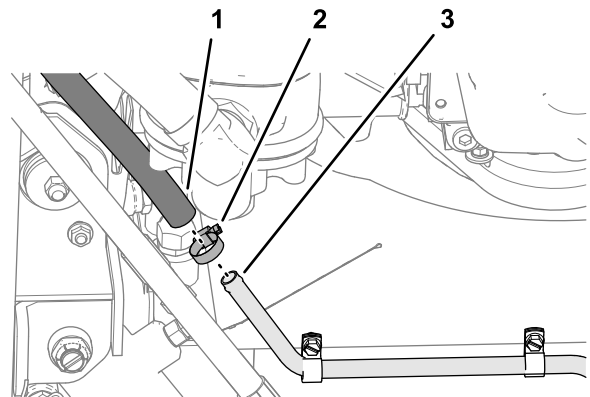

Figure 51
4. Assemble the free end of the oil cooler return hose onto the oil-inlet tube and secure the hose with a hose clamp (Figure 51).